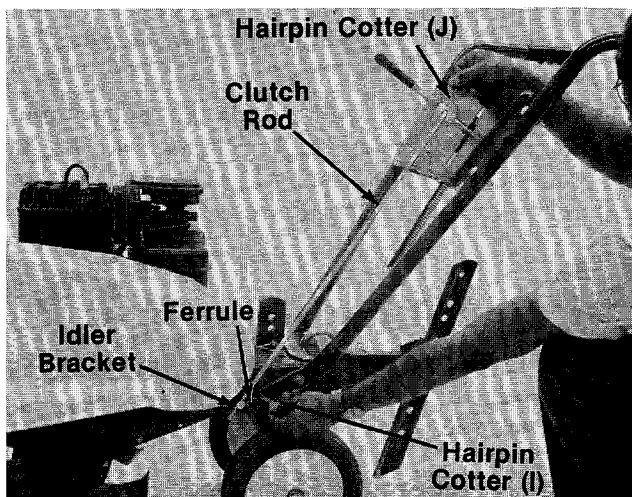

FIGURE 9.
1. Place shift lever (located on handle panel) in neutral (N) position. Place bent end of control rod into shift lever. Secure with hairpin cotter (J). See figure 9.
2. Thread ferrule (H) onto the other end of control rod so that the ferrule lines up with the hole in idler bracket. Secure with cotter pin (I). See figure 9.